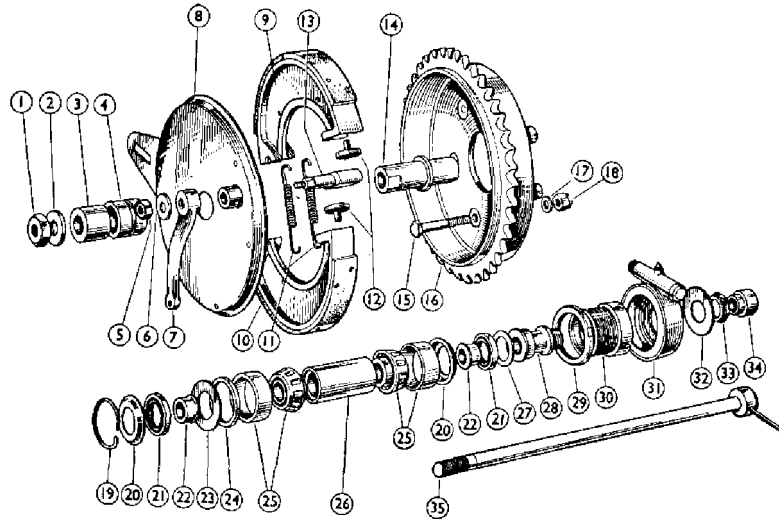

FIG. 76
Dismantling rear wheel bearing (Fig. 76). Before removing the rear wheel, release the speedo drive fixing nut (16), disconnect speedo cable and take out the wheel.